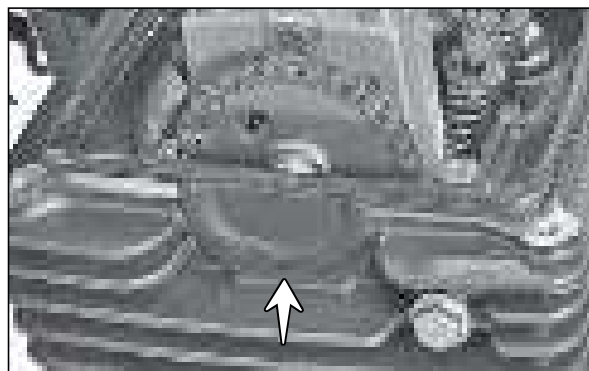

Fig. 3.40
- Take out the packing seal cover cylinder head. (Fig. 3.40)